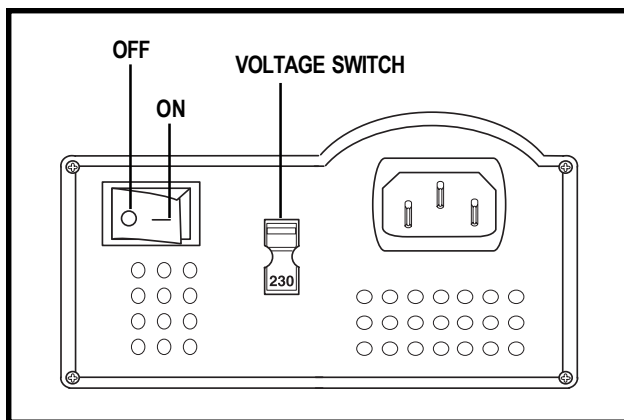

Figure 12. Charger On/Off and Voltage Switches
The off-board charger supplied with your scooter is equipped with a 115/230 voltage switch. Confirm that this switch is in the proper position for your locality. If you are not sure what the voltage is in your country, contact your local electricity dealer before inserting the charger power lead plug into your electrical outlet. If the setting is incorrect, the charger will not function properly. Slide the voltage switch to the appropriate position. See figure 12.
7. Turn the charger on. See figure 12. We recommend that you charge the batteries for 8 to 14 hours.